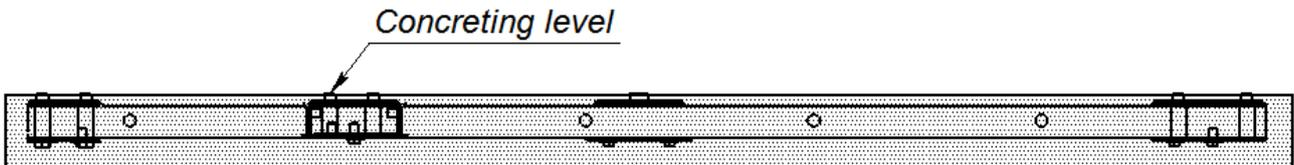

Figure 3. Frame installation layout
10. Pour concrete to the foundation using concrete of strength class of minimum B22.5, up to the upper level of threaded bushes as shown in Figure 3.